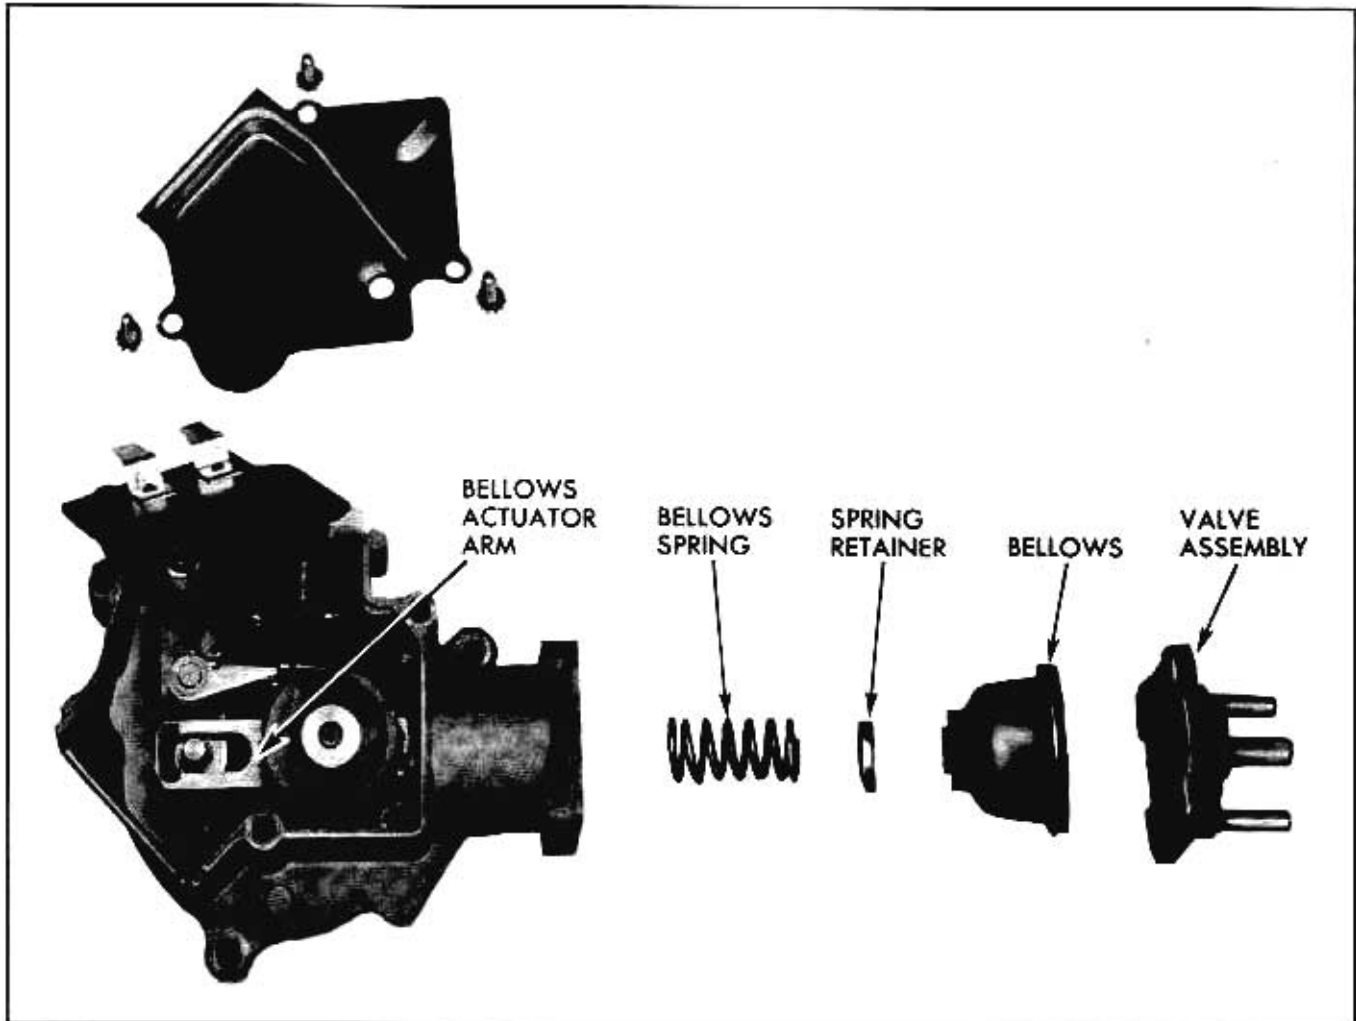

Fig. 11-69 Washer Pump
Remove the four screws that secure the valve assembly to the housing (Fig. 11-69) and gently pry the bellows lip out of the valve body.
1. Remove valve assembly (Fig. 11-69).